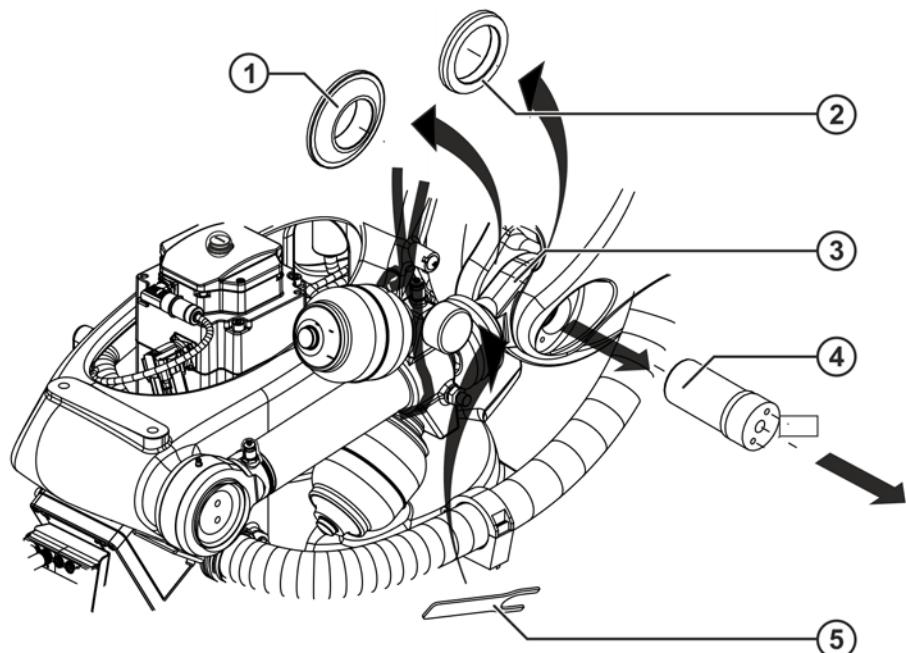

Fig. 11-30: Removing the counterbalancing system on a ceiling-mounted robot: pin
8. Insert the pin locator on the right-hand side between the articulated head and the link arm (=>> Fig. 11-30).